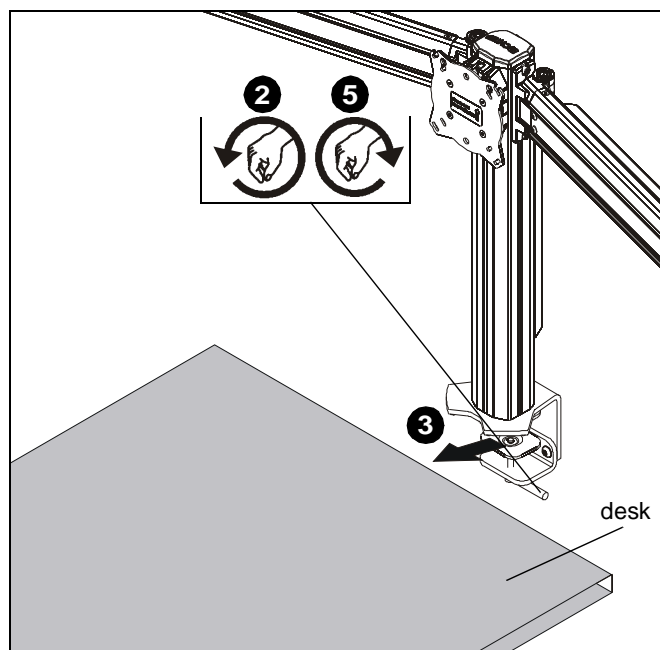

Figure 2
2. Loosen clamp screw until enough space is created between clamp and mount to allow for desk mounting. (See Figure 2)
3. Place mount on top of desk at desired mounting location. (See Figure 2)
5. Tighten clamp using clamp screw until mount is securely fastened to desk. (See Figure 2)